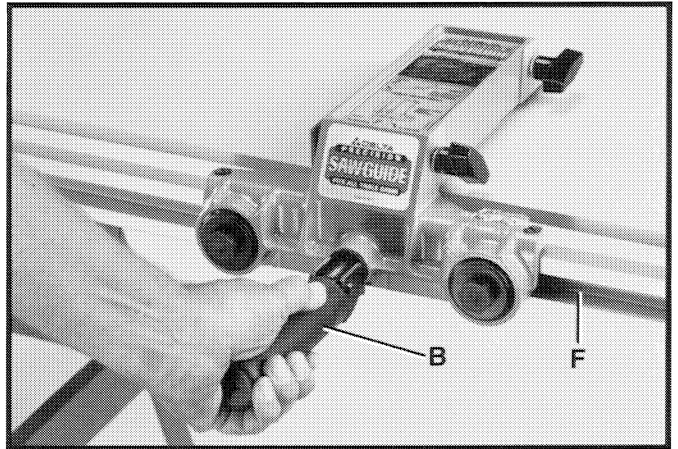

Fig. 45
3. Turn handle (B) Fig. 45, to the right. This will prevent fence clamp from sliding out of channel (F).